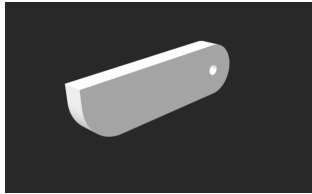

Figure 1: small arm part was cut of cardboard and about 4 ½ Inches long and 3/16" thick.
3. Begin to craft the small arm, figure 1, and the large arm, figure 2, out of cardboard or a hard plastic.
5. For the second motor, you will place it atop of the big arm. You will fasten it by taking one of your zip ties and putting it through the two holes on the rectangle part of the big arm. See figure 1 to see the two holes. Tighten the zip tie until the motor feels stable.